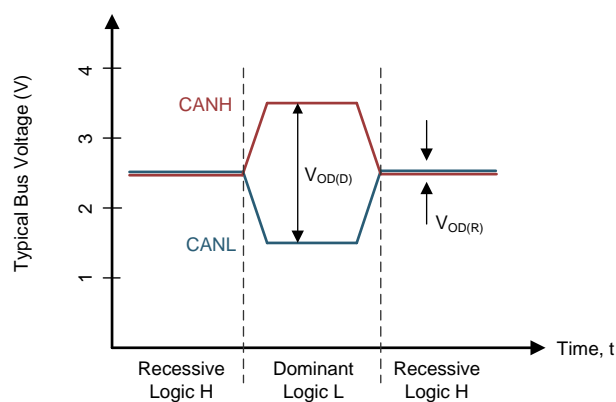
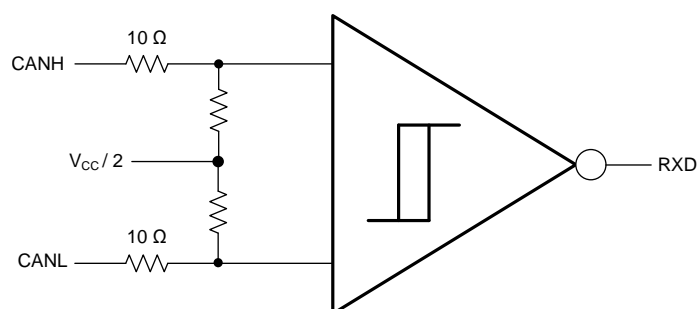

Figure 6. Bus States (Physical Bit Representation)
Figure 7. Common Mode Bias Unit and Receiver
The CAN bus has two logical states during operation: recessive and dominant. See Figure 6 and Figure 7.
(1) H = high level, L = low level
(2) H = high level, L = low level, Z = high Z receiver bias
(3) For Bus state and bias see Figure 7